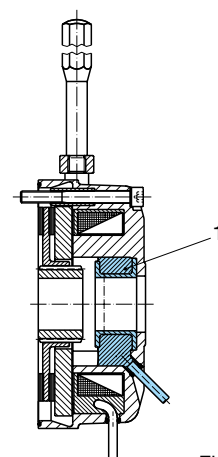

Fig. 6
- ACH = Anti-condensation heating, Fig. 6